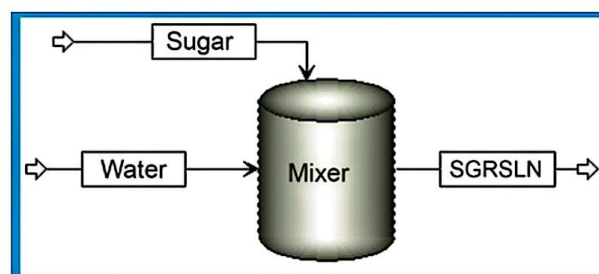

Figure 2.28 A simple process flowsheet for mixing water-sugar mixture.
2. Switching to “Simulation” environment and using the “Model Palette”, add one mixer from “Mixers/Splitters” tab and three material streams. Name the block and streams as shown in Figure 2.28.